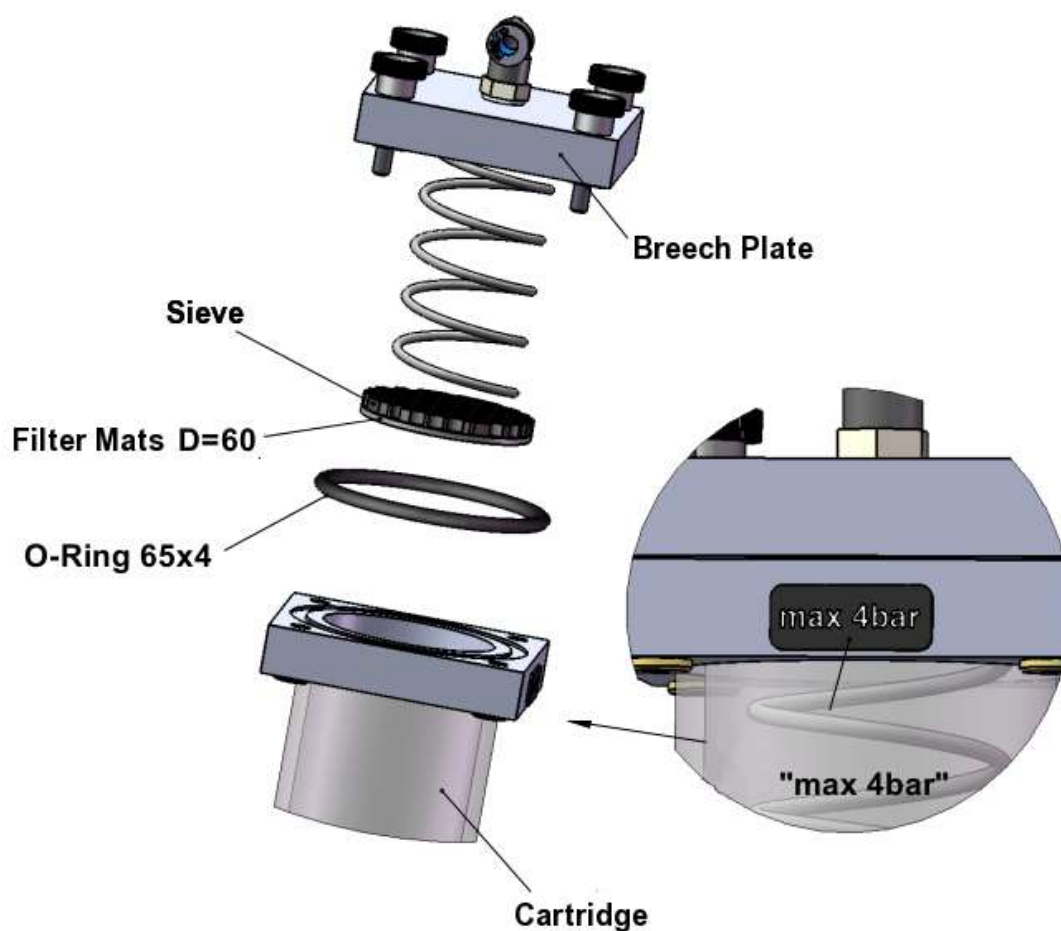

Fig. 111: Filter Cartridge (exploded assembly drawing)
4. Carefully open the filter cartridge from the top. Pay attention to the spring contained in the filter cartridge (Fig. 111, page 150).
8. Place on the soda lime cookies with indicator in the following order: the filter mats, the perforated disc, the spring and the O-ring in the groove of the filter cartridge (Fig. 111, page 150).